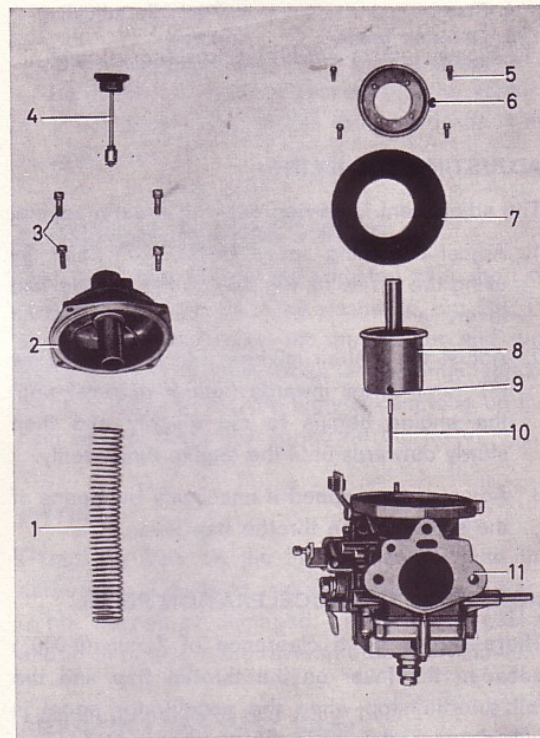
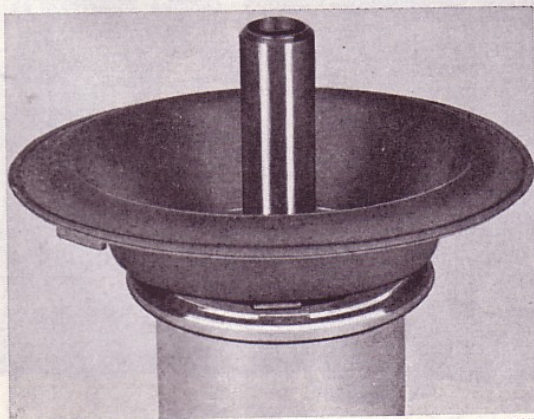

Fig. 88. Upper section dismantled
Fig. 91. Diaphragm and air valve
1. Make aligning marks on the suction chamber and the main body. Remove the suction chamber (2, Fig. 88) and the spring (1).
2. Remove the piston (8) with the diaphragm (7).
3. Slacken the screw (9) and remove the metering needle (10).
4. Remove the screws (5), the washer (6) and the diaphragm (7).
1. Place the diaphragm (7, Fig. 88) on the air valve (8), so that the projection (Fig. 91) fits into the corresponding recess in the valve and its guiding edge fits easily into the corresponding slit in the air valve.
N.B. If the diaphragm is distorted so that it cannot fit into the slit, replace the diaphragm. Carefully place the washer (6, Fig. 88) so that the screw holes coincide with the corresponding holes in the air valve and diaphragm without the need for turning the washer, and the washer groove mates with the guide edge of the diaphragm. Tighten down the washer (6) with the screws (5).